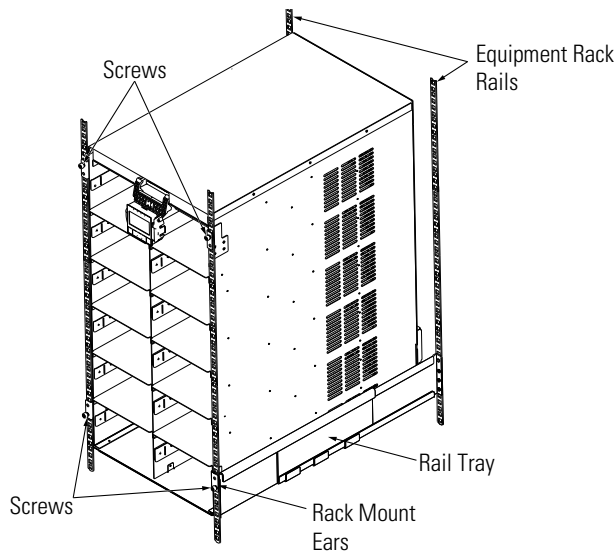

Figure 13. Securing the UPS in the Rack
4. Carefully slide the UPS from the caster tray onto the rail tray in the equipment rack until the rack-mount ears of the cabinet are almost flush with the front vertical rails of the rack. Install metal clip nuts in the rack in line with the upper mounting brackets. Install the provided screws (see Figure 13).
5. Install the provided screws into the lower rack mount ears to the threaded holes in the rail tray (see Figure 13).